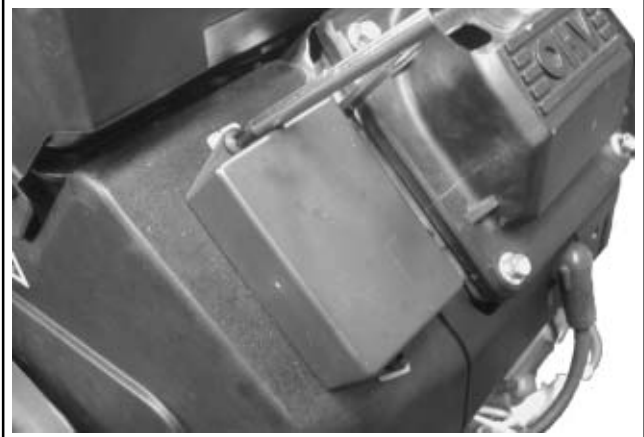

Figure 9-29. Removing the Spark Advance Module (Applicable Models).
3. The rectifier-regulator does not have to be detached from the blower housing. If the engine is equipped with SMART-SPARK™, the SAM module should be removed from the cylinder baffle or blower housing. See Figure 9-29. The module will hang loose as part of the wiring harness.